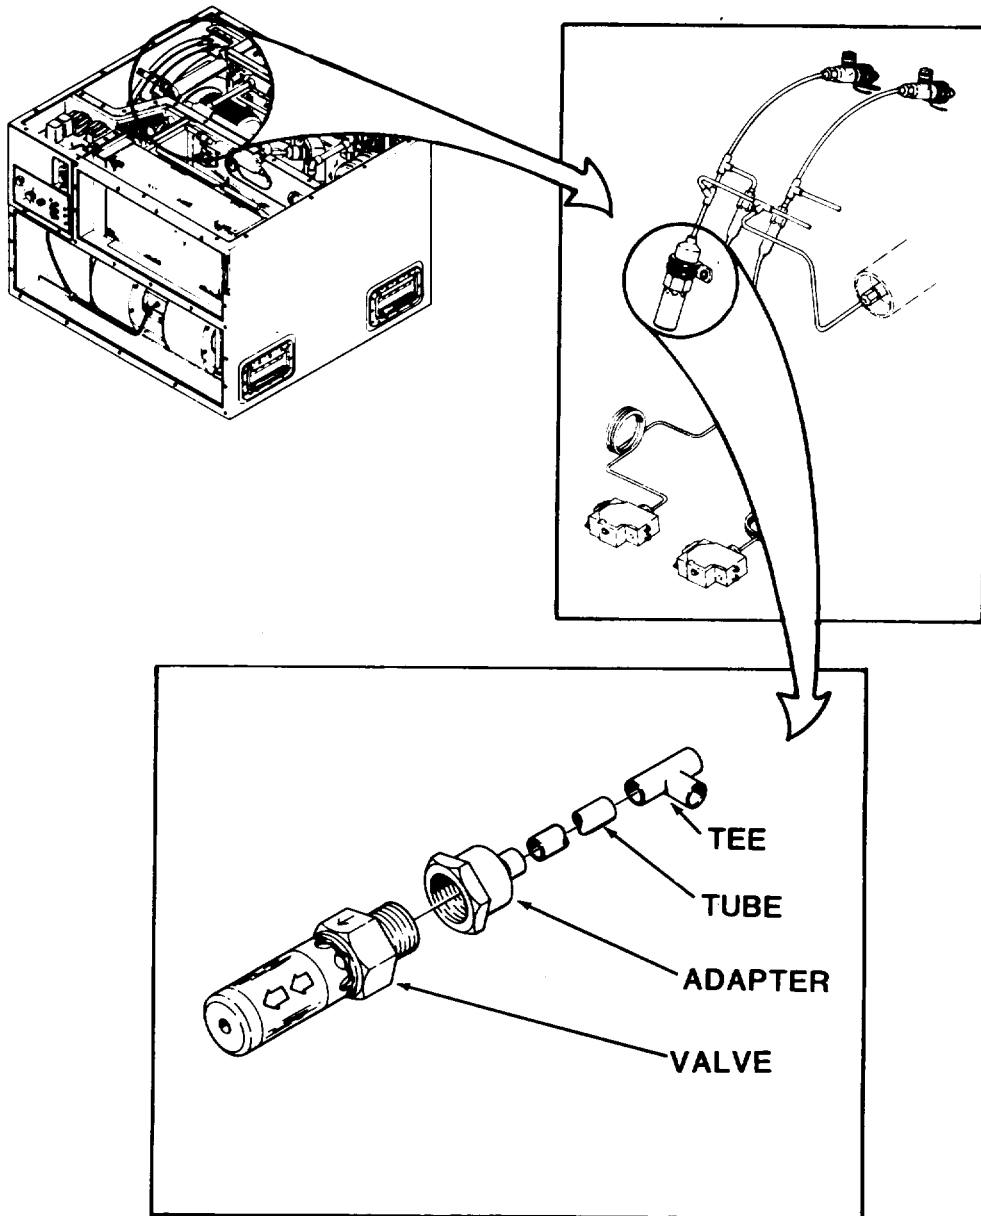

Figure 5-17. Pressure Relief Valve
a. Removal. (See fig. 5-17.)
(1) Disconnect power at power source.
(3) Discharge and purge refrigeration system per paragraphs 5-11 and 5-12.
(4) Remove screw, lock washer, flat washer, and loop clamp.
(5) Use two wrenches, one to hold fitting and the other to remove valve. Unscrew valve and remove it from unit.